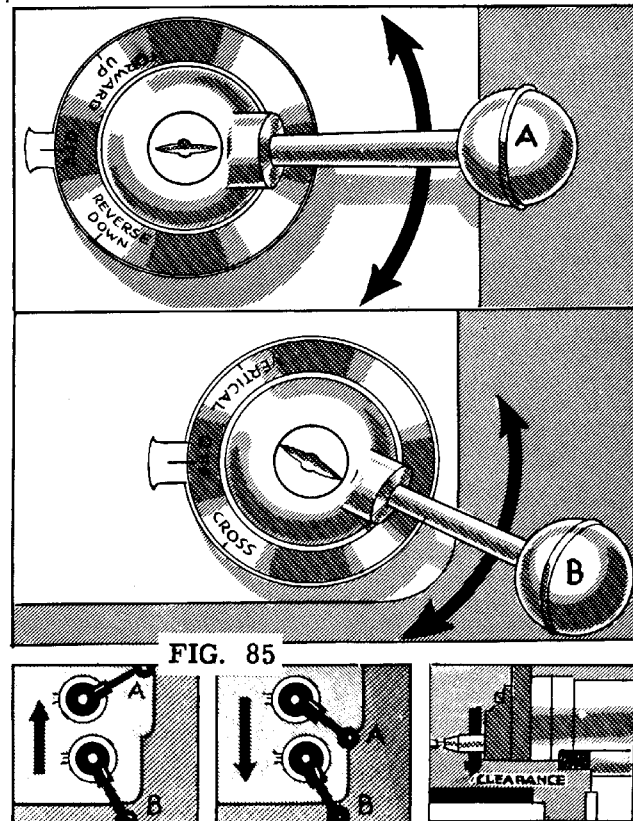

FIG. 85
2. Move selector lever (B) toward the operator, bringing the word "Cross" on its hub to the index line. Fig. 85.
3. Move the directional-reverse lever (A) in the direction in which the work is to feed: toward the operator for movement of the work in this direction; toward the column for feeding in the opposite direction. (Refer to Fig. 85).
6. Open the feed by slowly turning handwheel (C) to the left (counterclockwise) continuing the rotation of the handwheel until the graduated dial (D) on the cross-feed screw moves the desired number of thousandths for each cutting stroke.
7. Disengage the feed by moving reverse lever (A) in one direction or the other and aligning the word "Off" on its hub with the index line as shown in Fig. 85.
2. Move selector lever (B) toward the column of the shaper, thus bringing the word "Vertical" on its hub opposite the index line. (Refer to Fig. 85).